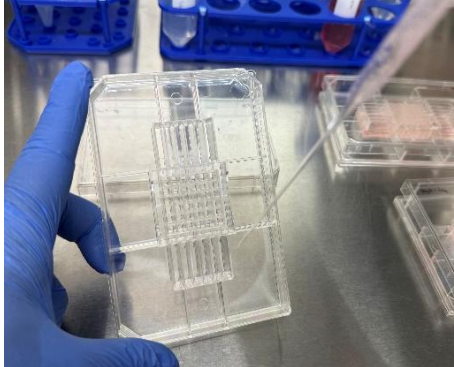

Figure 8. Vacuum aspiration of the old medium from the far end of the lower reservoirs.
25. While holding the perfusion plate at approximately a 45° angle, allow the old cell culture medium to drain toward the lower reservoirs. Aspirate and remove the medium completely from the far end of the lower reservoirs using a Vacusafe vacuum aspiration system (Integra Biosciences) (**Fig. 8**).